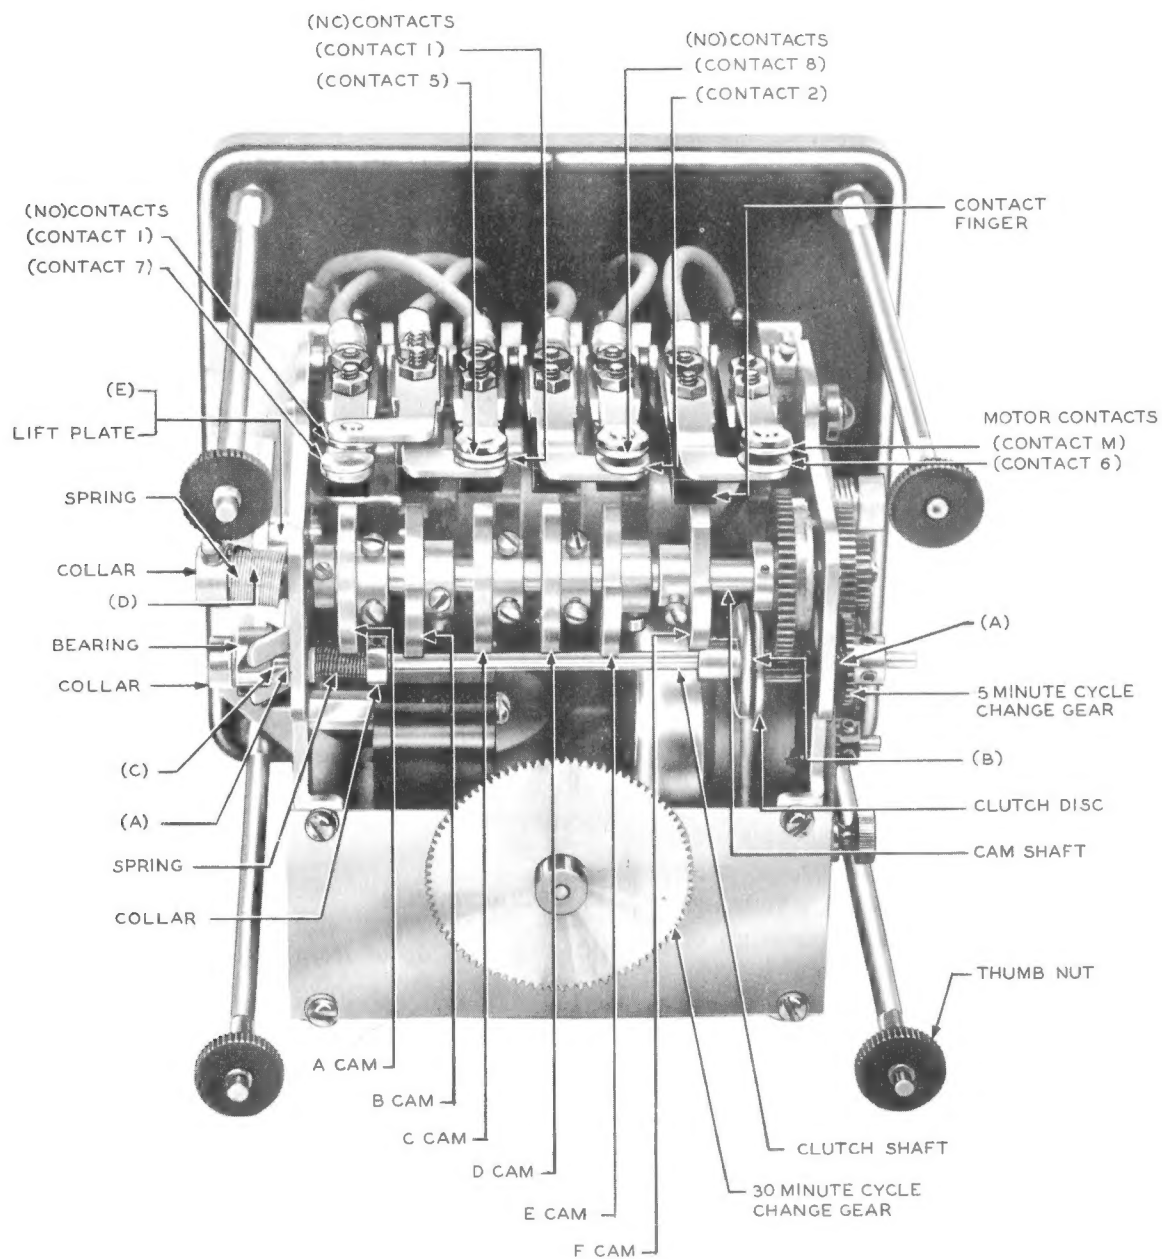

Fig. 1 - KS-15513 Time-delay Relay
- (2) Fig. 1(A) — Clutch shaft at bearings (two points).
- (3) Fig. 1(B) — Clutch shaft at right-hand clutch disc.
- (4) Fig. 1(C) — Clutch shaft at clutch bearing.
- (6) Fig. 1(D) — Camshaft at left bearing.
- (7) Fig. 1(E) — Lift plate at left bearing.
2.05 Contact Separation: Fig. 1 — The separation between any pair of normally open (NO) contacts (contacts 1 and 7 and contacts 2 and 8) or between any pair of normally closed (NC) contacts (contacts 1 and 5) or motor contacts (contacts 6 and M) that are opened when the associated cams trip the associated contact fingers shall be